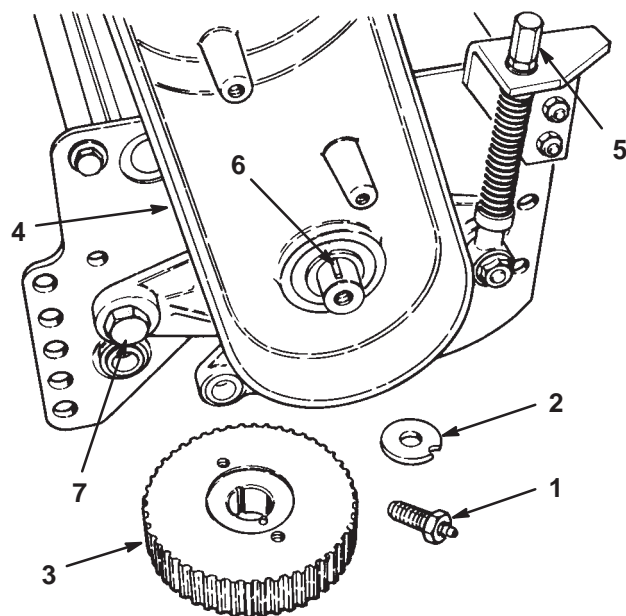

Figure 31
6. Remove the reel capscrew, toothed washer, and pulley washer from the reel shaft (Fig. 31).
7. Using a puller, remove the driven pulley from the reel shaft (Fig. 31). Remove the woodruff key from the reel shaft.
8. Remove the adjustment assembly and cone nut, Belleville washer, and shoulder bolt securing the housing to the sideplate (Fig. 31). Remove the housing.
10. Ensure the slot in the pulley washer is aligned with the roll pin in the pulley and install the washer, toothed washer, and reel capscrew (Fig. 31). Apply a medium strength thread locking compound to the reel capscrew during assembly. Torque the capscrew to 45–55 ft.-lb.